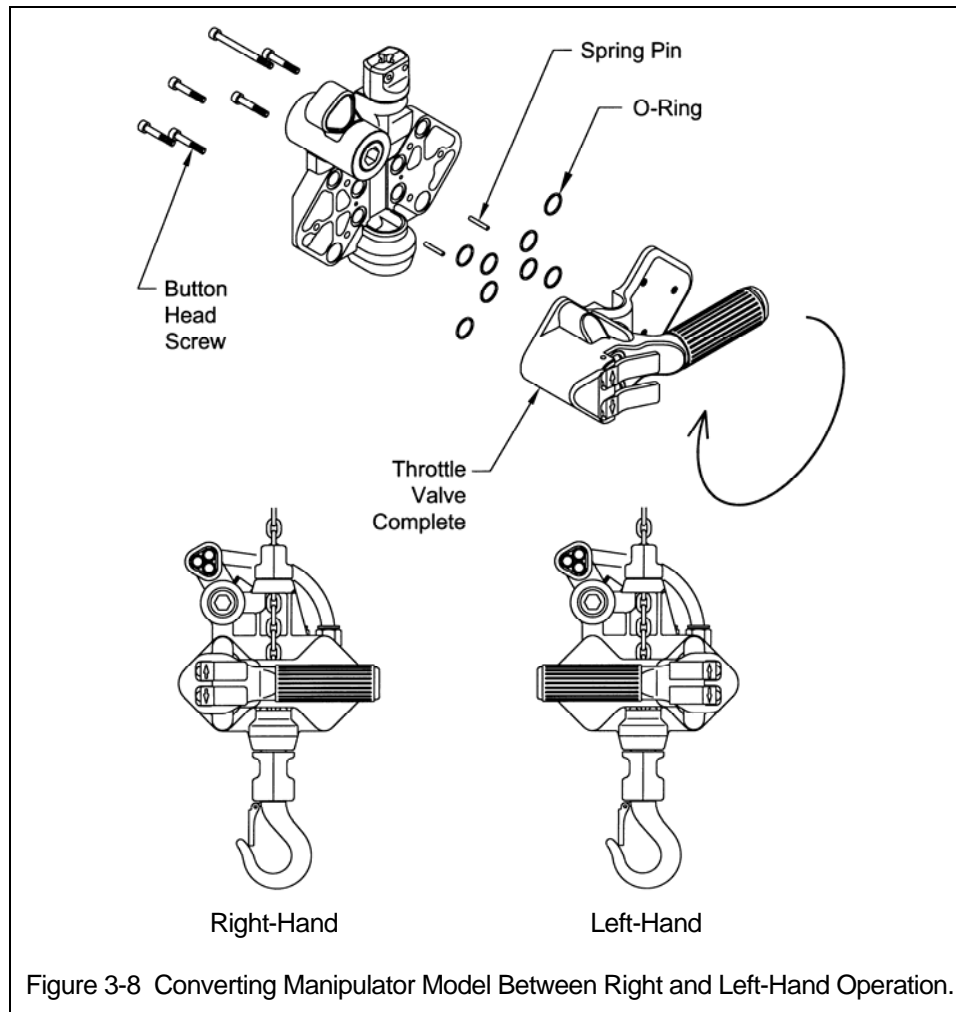

Figure 3-8 Converting Manipulator Model Between Right and Left-Hand Operation.
- 3.12.1 Follow instructions below to configure for right or left-hand operation. Refer to Figure 3-8.